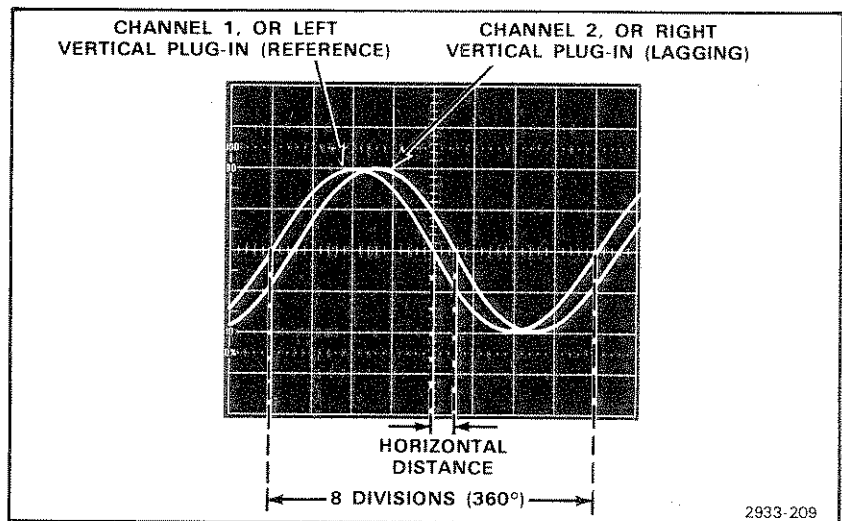
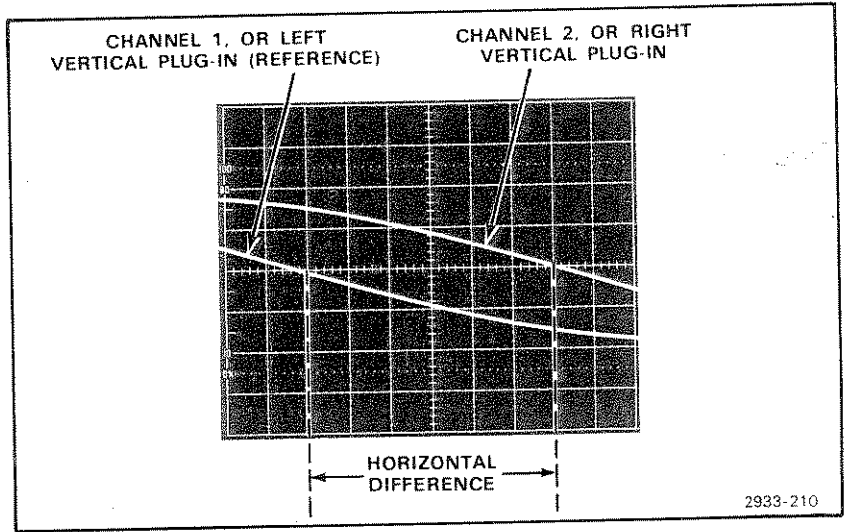

Figure 3-6. Measuring phase difference.
Figure 3-7. High-resolution phase difference measurement with increased sweep rate.
9. Turn the variable Time/Div control until one cycle of the reference signal (channel 1, or left plug-in) occupies exactly eight divisions between the second and tenth vertical lines of the graticule (see Fig. 3-6).
EXAMPLE: Assume a horizontal difference of 0.6 division with a sweep rate of 45 degrees/division as shown in Figure 3-6. Use the formula:
EXAMPLE: If the sweep rate were increased 10 times with the magnifier, the magnifier sweep rate should be 45 degrees/division divided by 10 = 4.5 degrees/division. Figure 3-7 shows the same signals as used in Figure 3-6, but with the sweep magnifier button pushed in. With a horizontal difference of six divisions the phase difference is: